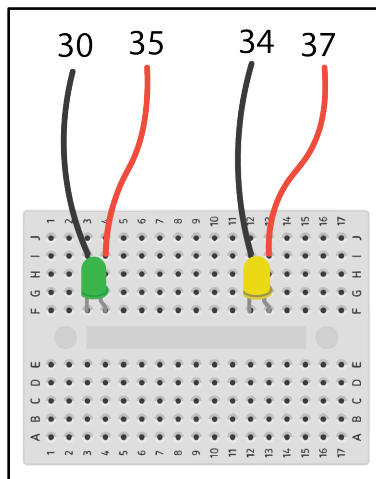

Figure 23. Connecting green and yellow LEDs to the GPIO.
- d. Connect the two color (green and yellow) LEDs, which represent the outputs of ganglion cells 1 and 2, to the GPIO, using the following logic (**Fig. 23**).